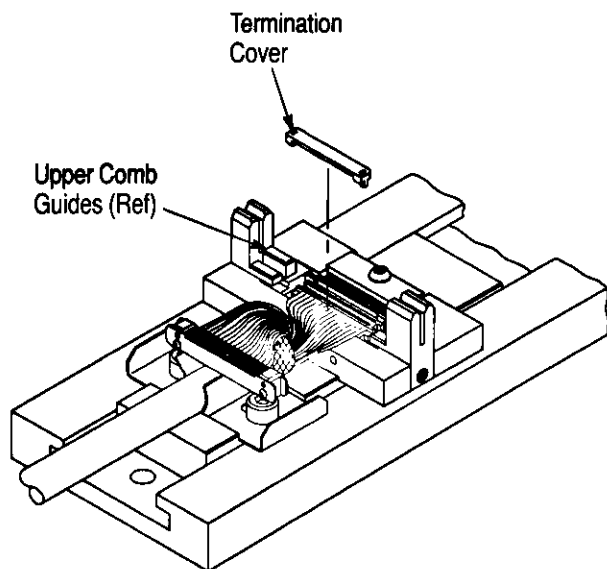

Figure 10
8. Secure the connector termination cover over the terminated contacts. See Figure 10.
9. Place the bottom comb (the remaining comb) between the upper comb guides (refer to Figure 10) and onto the connector with the laced wires facing the connector.